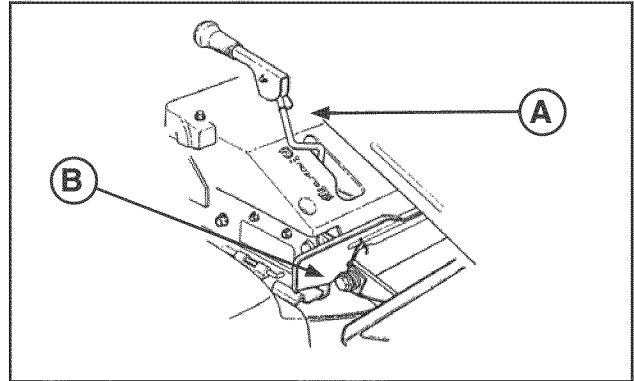

FIGURE 9
1. To engage the blade, move the blade lever (A, Figure 9) to ON position, then depress the blade pedal (B) to hold the blade lever in the ON position.